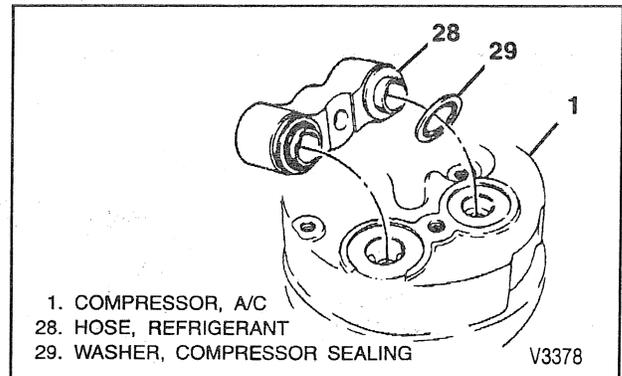

Figure 28—Sealing Washer Installation (1 of 2)
1. Install sealing washer onto pilots of suction/discharge block fitting. Washers must “bottom” against surface of block fitting (figure 28).